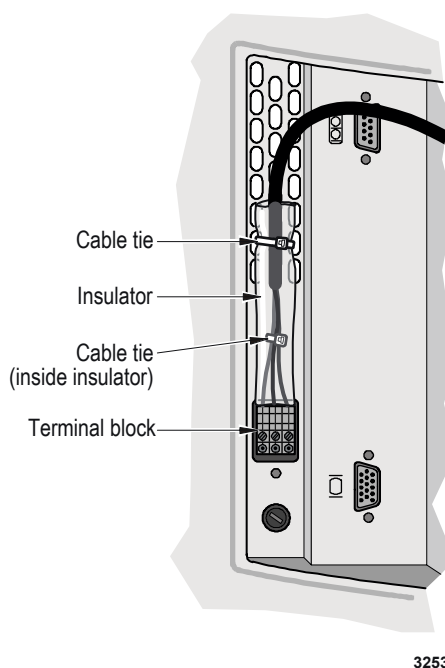

Figure 7: Terminal connection: ET 350R and ET 350L3 monitors
6. Repeat (3) and (4) for the ground and line cable wires.
8. Fasten a cable tie around the three wires at about one inch from the terminal block (Figure 7).